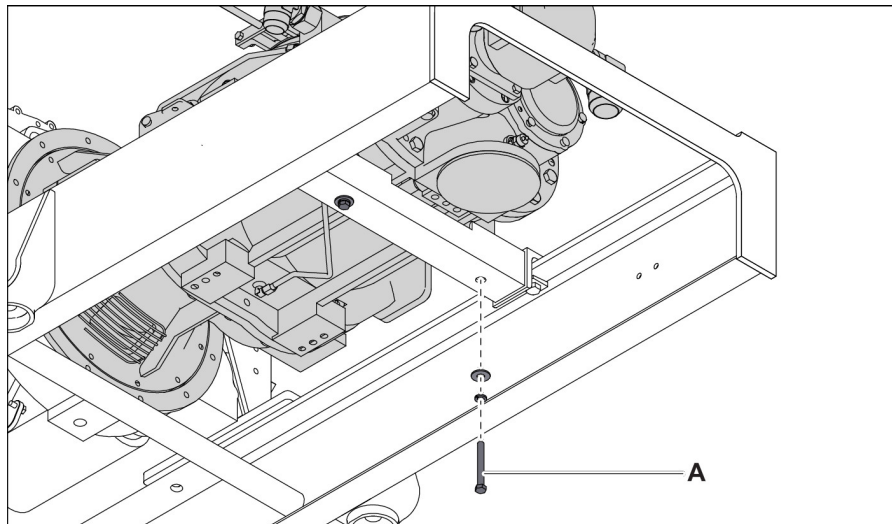

Figure 11
16. Remove the compressor mounting cap screws (Figure 11, item A) to the power pack base (LP compressor has eight cap screws and HP compressor has two cap screws).
30. Loosen the four cap screws below the power pack frame that connect the cross member bracket (Figure 11).